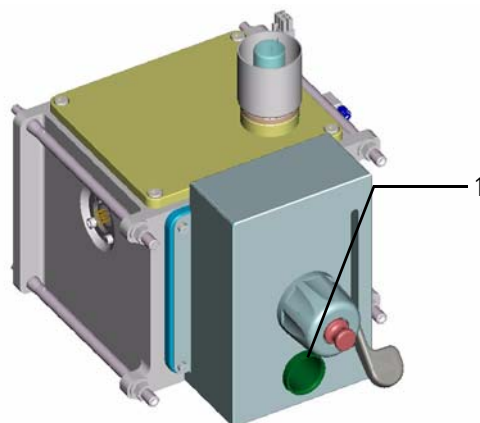

Figure 3-28. Valve shield (1) covering the vacuum manifold probe plate
- c. Remove the valve shield from the vacuum manifold probe plate (Figure 3-28) by loosening the four screws at the corners of the shield.